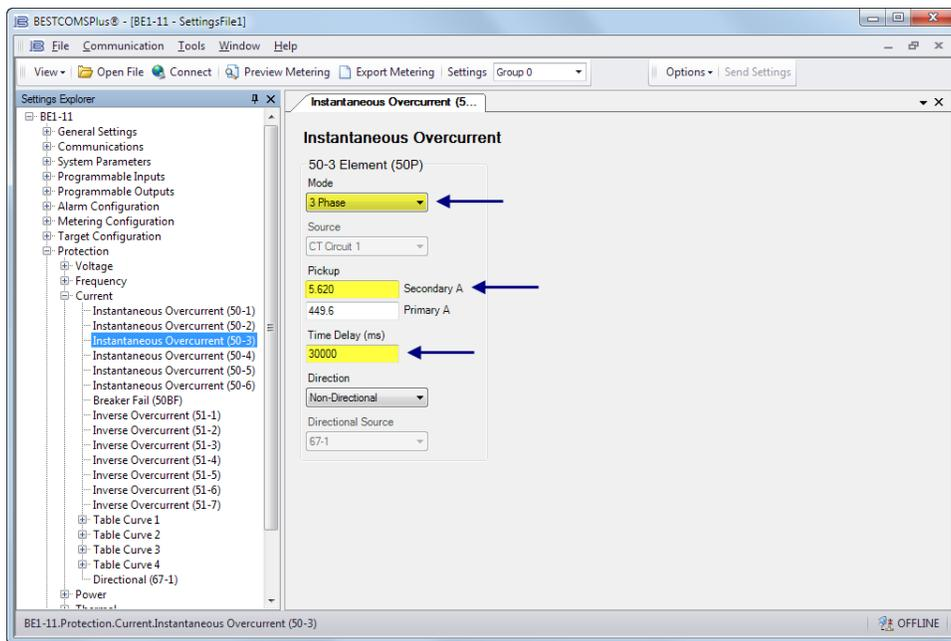

Figure 11. Instantaneous Overcurrent (50-3) Screen
- Step 7: In the Settings Explorer, expand Protection, Current and select the Instantaneous Overcurrent (50-3) screen. See Figure 11.